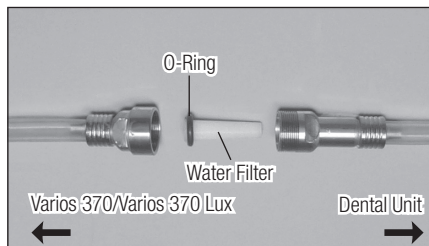

Fig.22
- 3) When the Water Filter case is separated, the Water Filter can be removed as shown in Fig. 22.